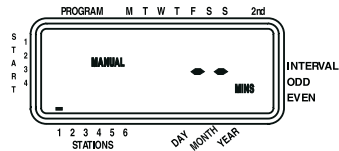

Figure 13
- Press the manual key. Then press next three times. The display will show a blinking cursor on station 1 along with - - MINS [See Figure 13].